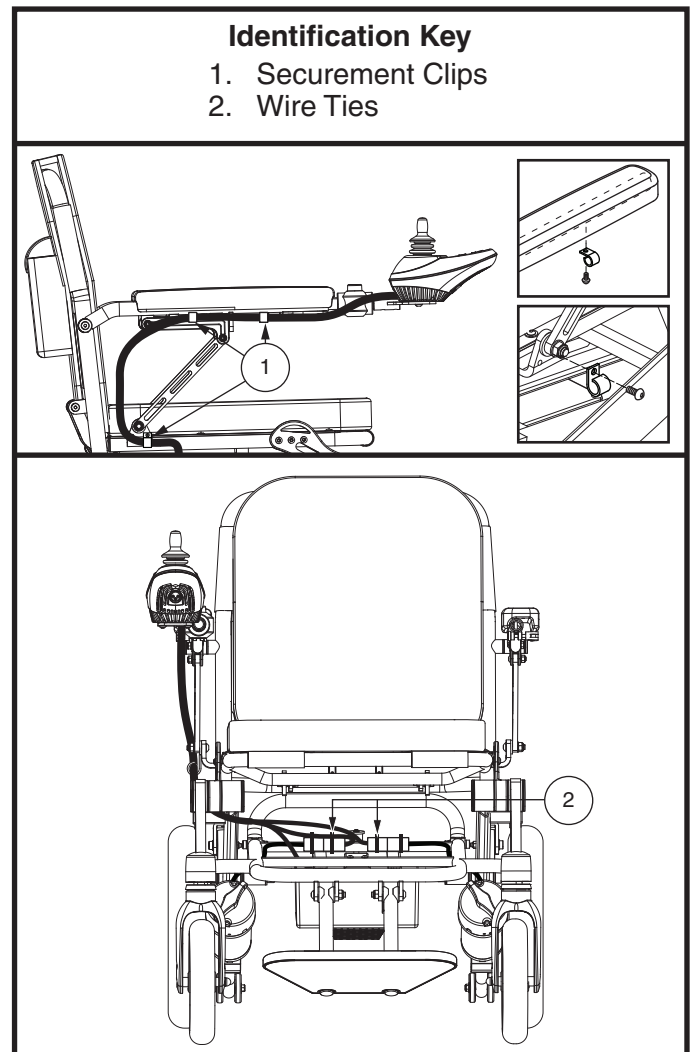

Figure 10. Controller Position
4. Insert the controller into the armrest and tighten the thumbscrew, then latch the quick release handle. **See figure 6.** Hook the controller harness to the securement clips. **See figure 10.**
3. Unhook the controller harness from the securement clips. Uninstall the securement clips and reinstall them on the other side. **See figure 10.**
11. Use wire ties to secure the controller harness to the frame, and hook the controller harness to the securement clips. **See figure 10.** Ensure that the armrest can freely be raised and lowered without any tension on the harness so the securement clips do not become disconnected.